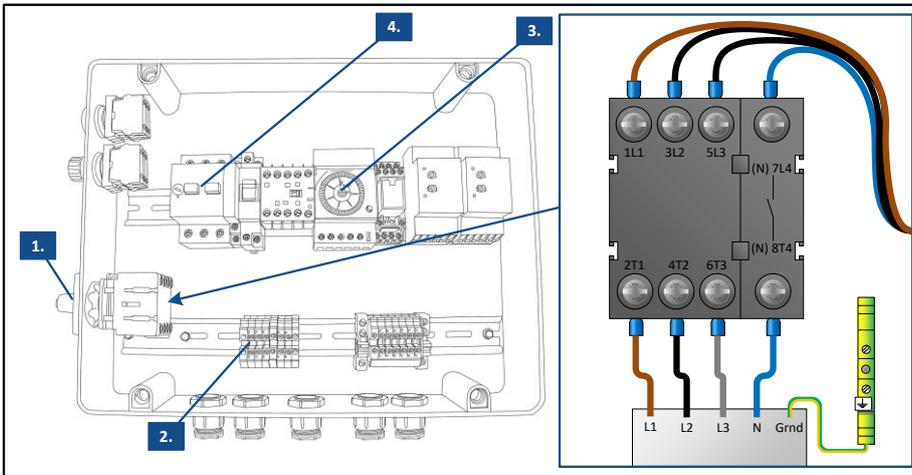
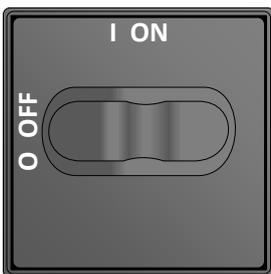

Figure 5. ExitOxy switch panel
Figure 6. Main switch
- **Is the head switch in the 'OFF' position?** (Figure 5. No. 1 & Figure 6)
Step 2. Connect the phases 1, 2 and 3 to the contacts 2T1, 4T2 and 6T3 of the main switch (Figure 5).
Step 3. Connect the neutral wire to the contact (N)8T4 of the main switch (Figure 5).
Step 4. Connect the green/yellow wire to the first ground terminal of the terminal strip. (Figure 5. No. 2).
**The time clock is by default set to turn on the machine for 1 hour in the morning and 1 hour in the evening. If desired, it can be customized in the switch panel. (Figure 5. No. 3)*
Pump thermally inoperative	The thermal protection of the water pump is addressed because the power usage of the pump has been too high. Open the switch panel of the ExitOxy and reset the thermal protection (Figure 5. No. 4). Research then the cause of the high power usage of the pump.